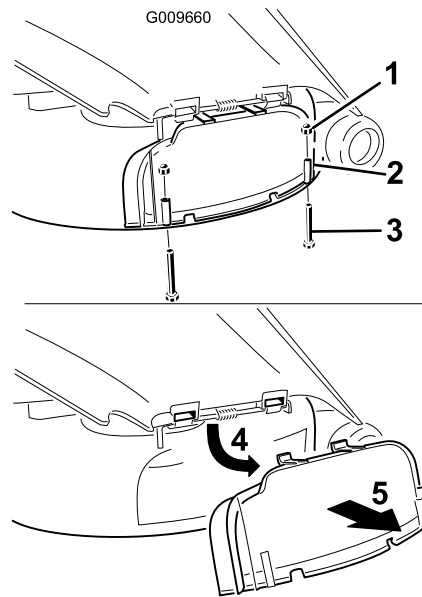

Figure 23
- Remove the 2 bolts and nuts that secure the discharge cover to the mower (Figure 23).